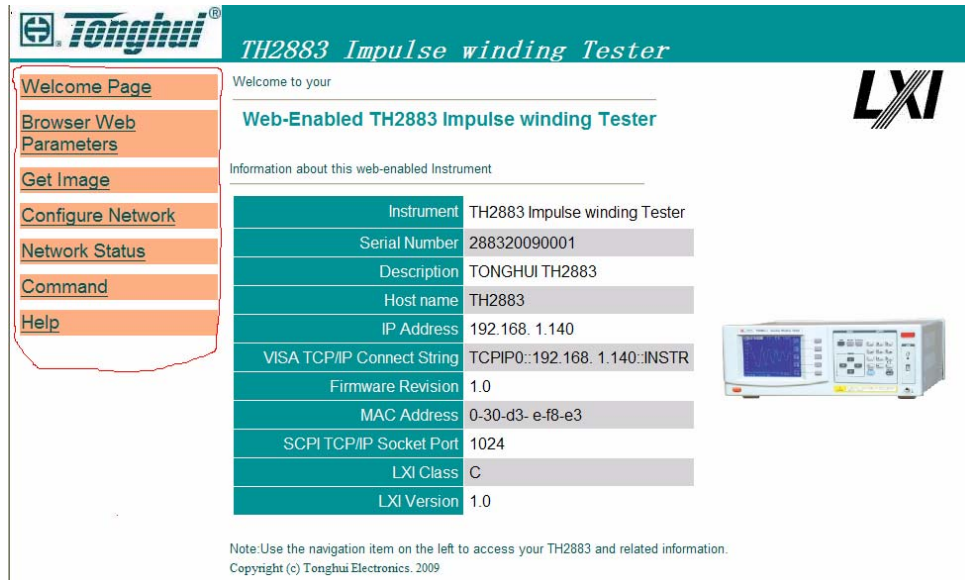

Figure 6-11 Access to TH2883 through a browser
- (1) Start up Internet Explorer.
- (2) Input <http://192.168.1.140/> in the address zone and then press ENTER to finish inputting.
- (3) The startup screen of Web server is shown as figure 6-11.